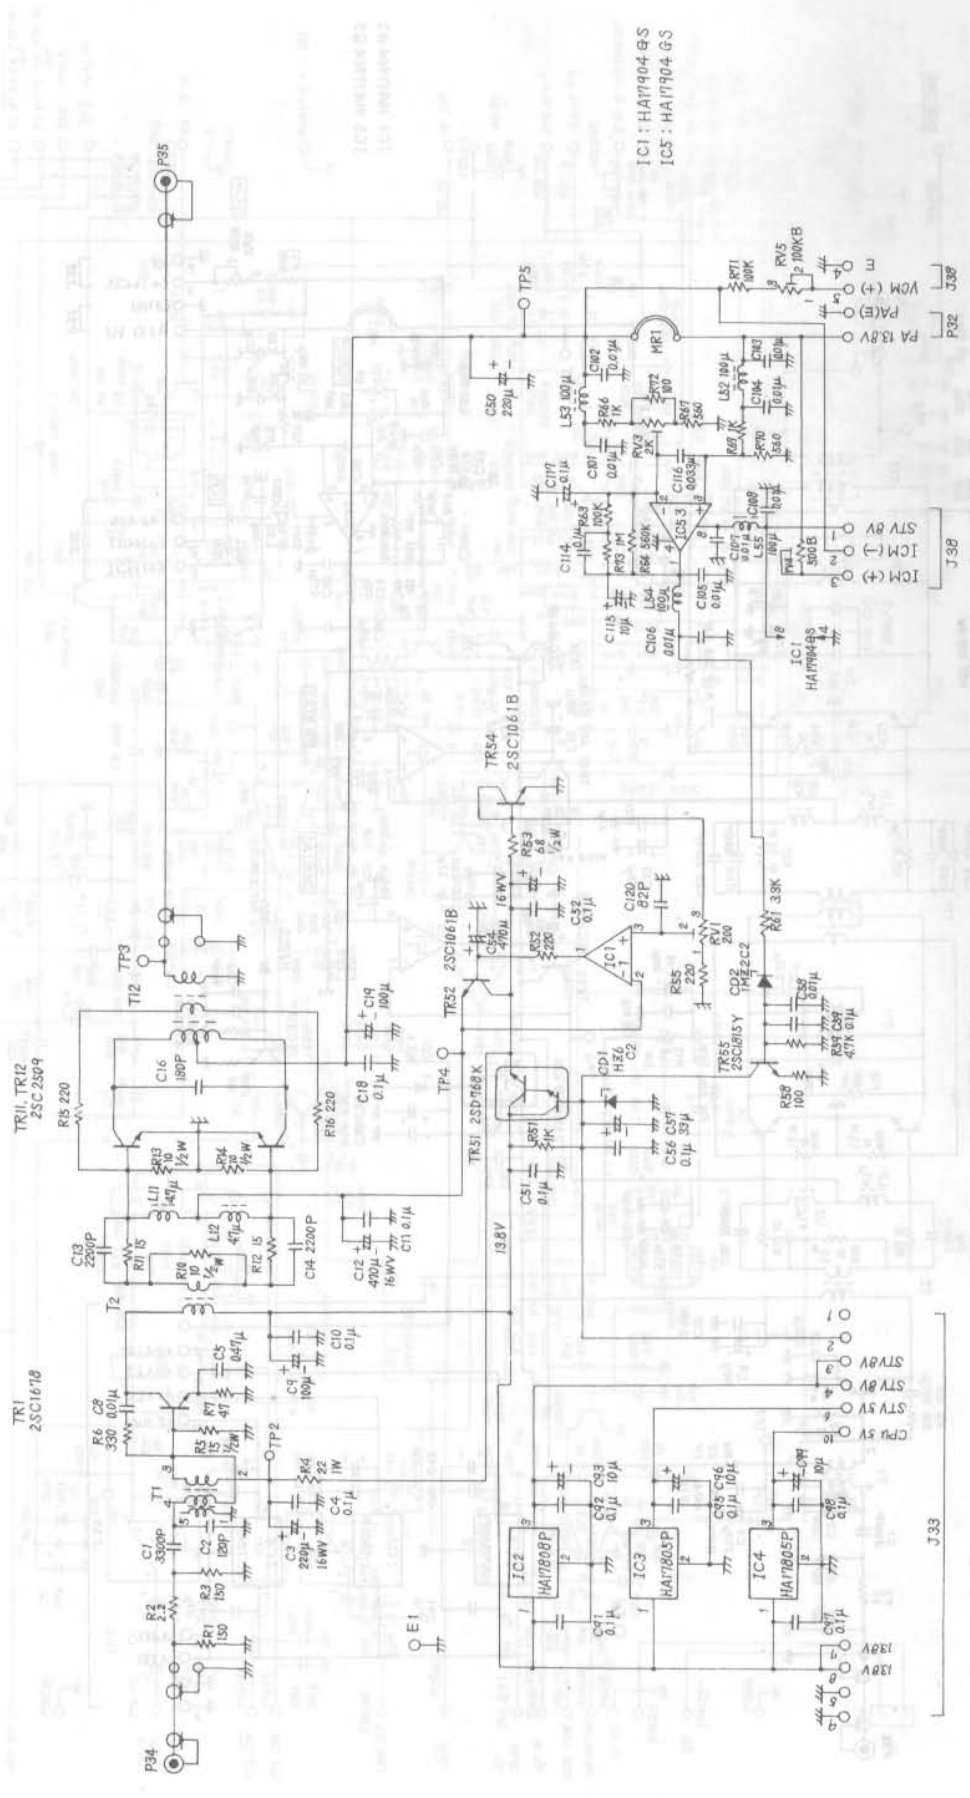

FIGURE 7.7 CAH-158 10W PA UNIT CIRCUIT DIAGRAM
- FIGURE 7.7 CAH-158 10W PA UNIT CIRCUIT DIAGRAM